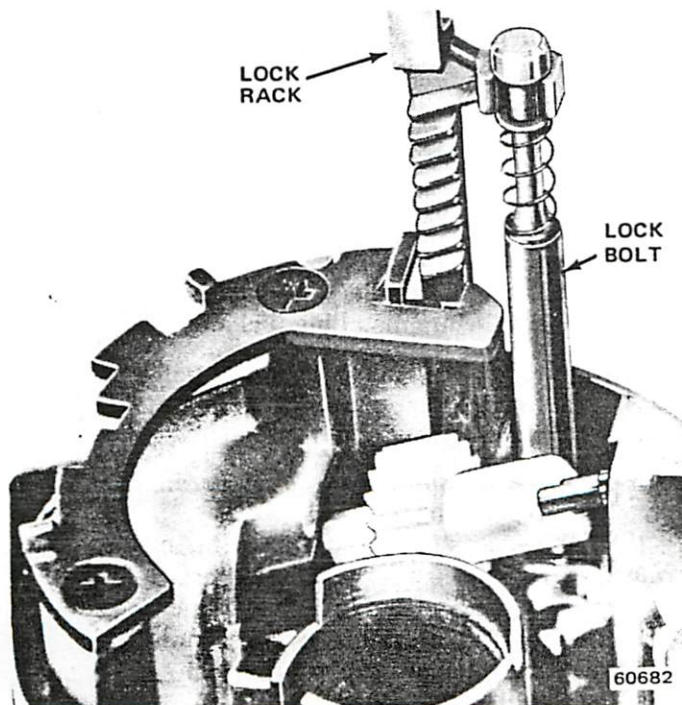

Fig. 2J-33 Lock Rack and Lock Bolt Installation
(10) Install shift quadrant lamp and lamp cover.
(11) Install shift quadrant indicator and press retainer clips into place with flat side toward bowl.
(12) Assemble lock bolt and lock rack (fig. 2J-18).
(13) Install assembled lock bolt and lock rack in shift bowl (fig. 2J-33).
**NOTE:** The block tooth of the lock rack must engage the block tooth of the sector (fig. 2J-19).
(14) Install nylon thrust cup in upper housing with flared end of cup facing outward (fig. 2J-28).